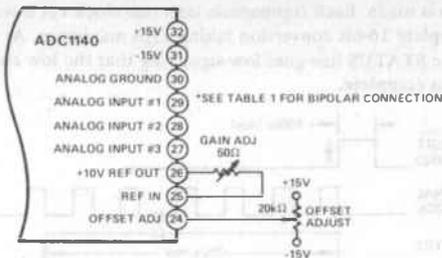

Figure 3. Offset and Gain Calibration
¹ Offset and gain error are adjustable to zero by means of external potentiometers. See Figure 3 for proper connection.
* If Internal Reference is used, Pins 25 and 26 must be connected together (see Figure 3) and the gain calibration section).
Initial offset and gain errors can be adjusted to zero by potentiometers as shown in Figure 3. Proper offset and gain calibration requires great care and the use of extremely sensitive and accurate reference instruments. The voltage standard used as a signal source must be very stable. It should be capable of being set to within $1\mu V$ of the desired value at both ends of its range. The potentiometers selected should be of the good quality Cermet type. Multi-turn potentiometers having ten to fifteen turns and $100\text{ppm}/^\circ\text{C}$ temperature coefficients will be adequate. The temperature coefficients contributed by these Cermet potentiometers will be less than $0.1\text{ppm}/^\circ\text{C}$.